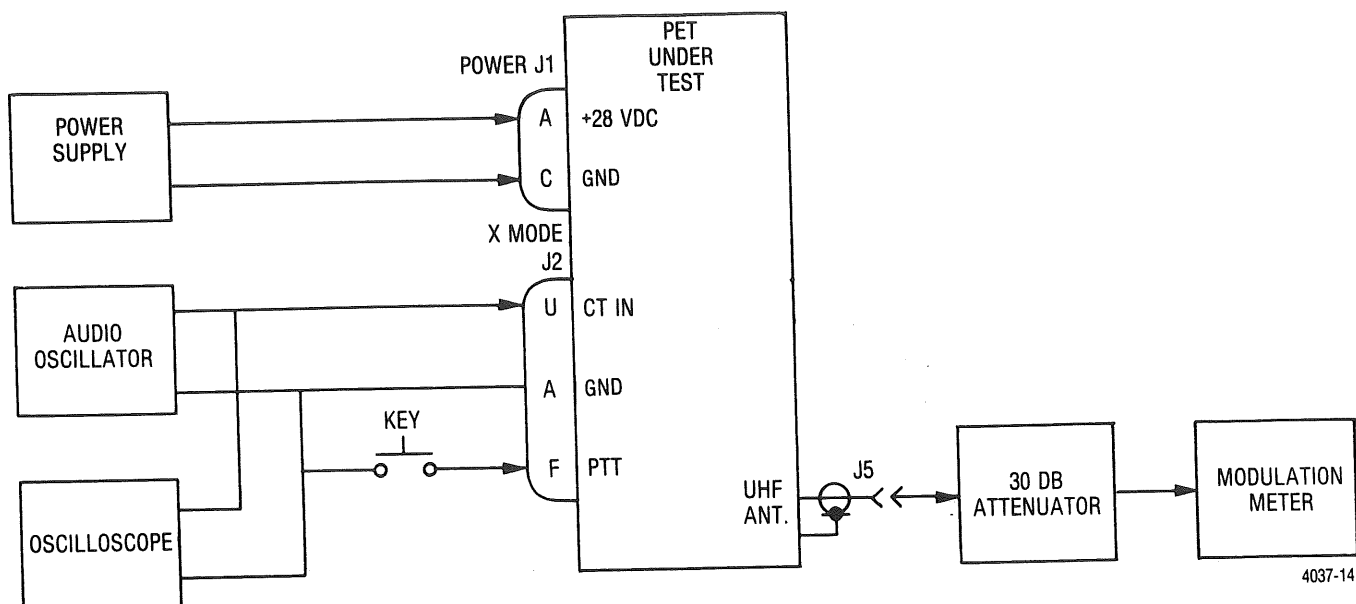

Figure 4-4. PET System Test Setup (Transmitter CT Tests)
- a. Connect the transceiver and test equipment as shown in Figure 4-4.